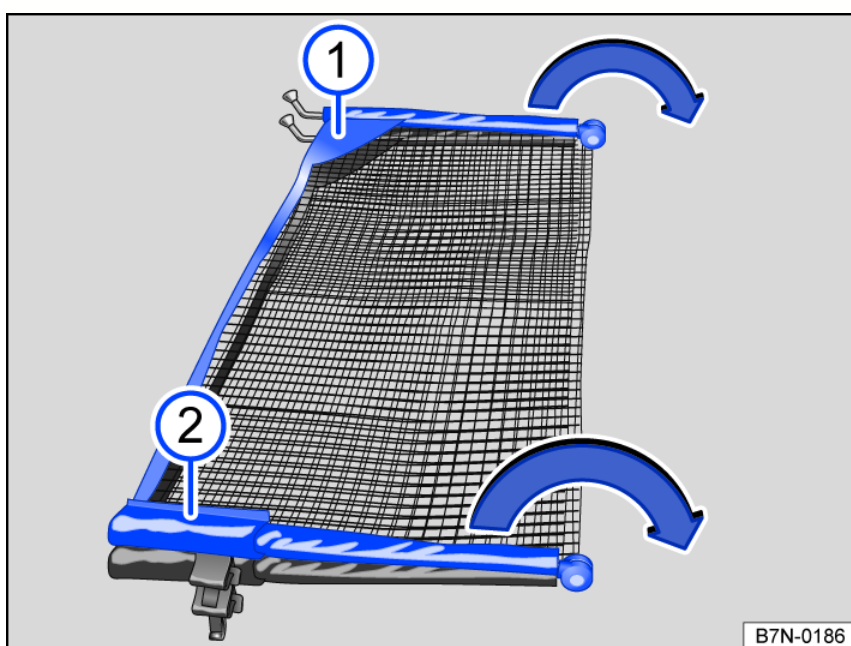

Fig. 154 Folding out the net partition.
Fold out the net partition crossbars fig. 154 ① and ② in the direction of the arrows until you hear a “click”.